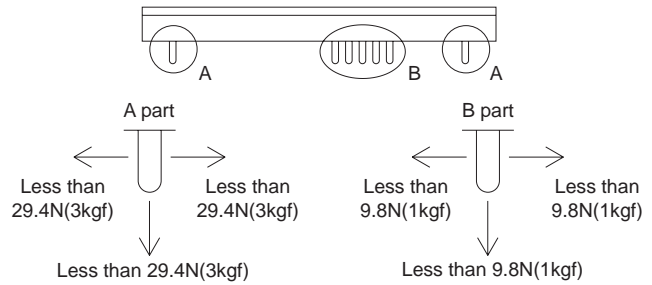

Fig.6.2 Stress onto the pins
- When too much stress is applied to the pins of the power supply, the internal connection may be weakened. As shown in Fig.6.2 avoid applying stress of more than 29.4N(3kgf) on the input pins/output pins(A part) and more than 9.8N(1kgf) to the signal pins(B part).